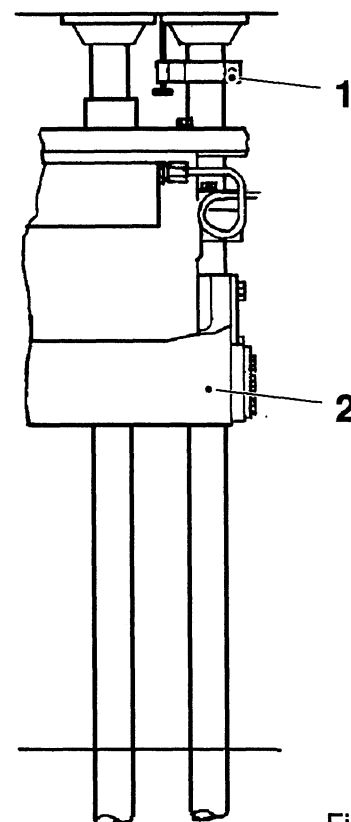

Fig. 1
- Crank to 35° (30° for 200S) and fit the point measuring clamp (1), on the LH yoke guide, see fig. 1.
- Crank until the yoke (2) reaches its lower turning position, see table below.